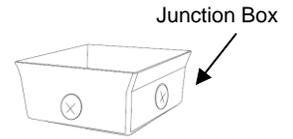

Figure 3
- Before beginning the installation instructions (on page 2), align and install the junction box (See Fig. 3) to the surface where the Slim Wall Pack is being installed and pull through wiring.